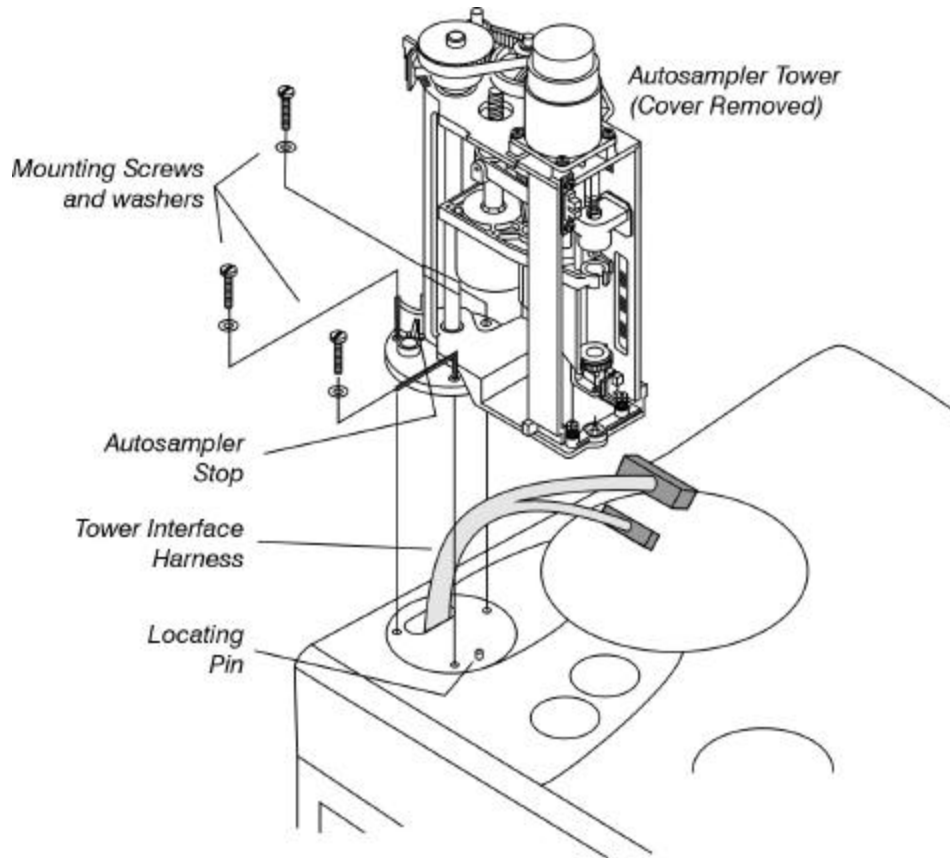

Figure 2-1 Installing the autosampler tower.
3. Install the autosampler tower on the top of the Clarus 500 GC as shown in Figure 2-1. The locating pin on the Clarus 500 GC fits into the slotted hole in the autosampler tower base.